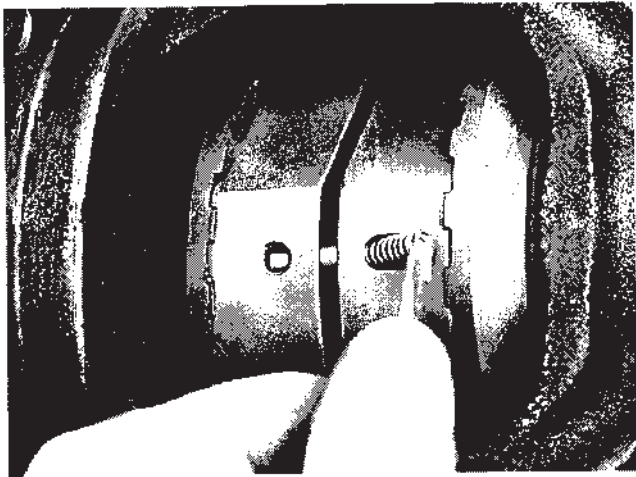
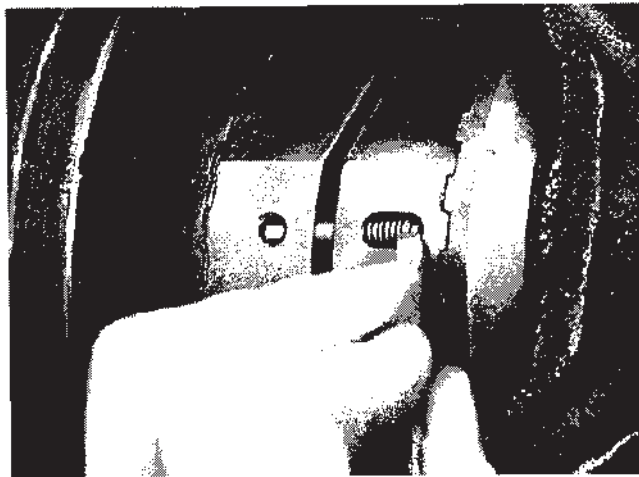

Figure 7
Figure 8
3. **Place one end of a spring assembly** (small spring inside the large one) into the window hole, behind the pin (**Figure 7**). Compress it with a small screwdriver and pop the bottom into the window hole (**Figure 8**).